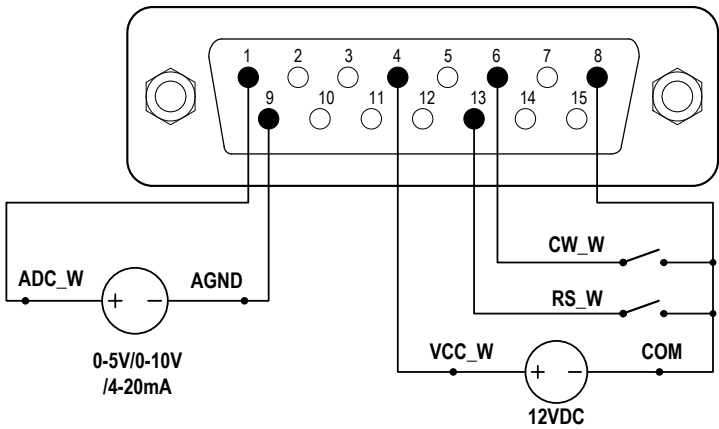
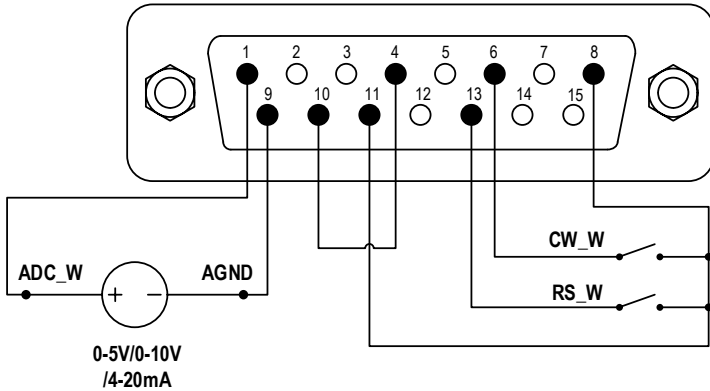

Figure 13. DB15 Wiring with External 12VDC Power Source
Figure 14. DB15 Wiring with Internal 12VDC Power Source
- 1) Switch the power off. Wire the DB15 connector as shown on Figure 13 or Figure 14. Connect it to the DB15 port on the rear of the pump.